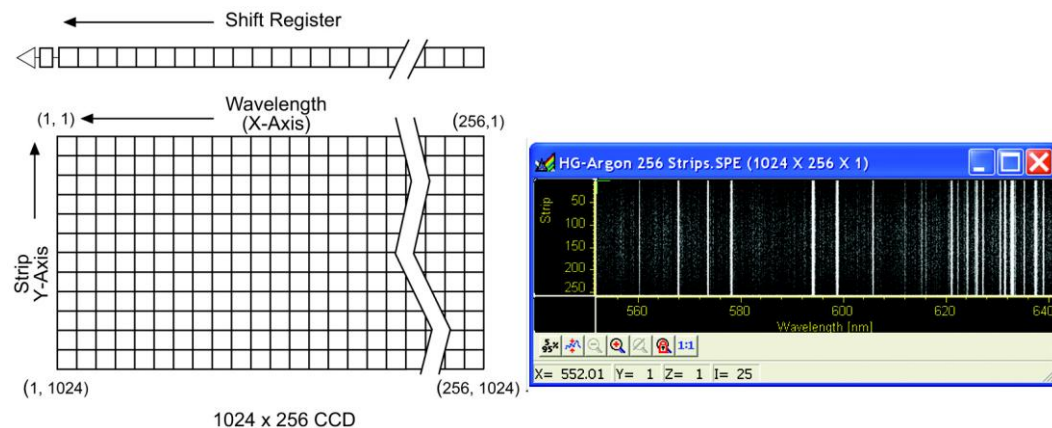

Figure 121. Assumed Array Orientation
2. References to X and Y axes assume that the shift register is parallel to the X-axis and that the data is shifted to the shift register in the Y direction. See Figure 121 below.